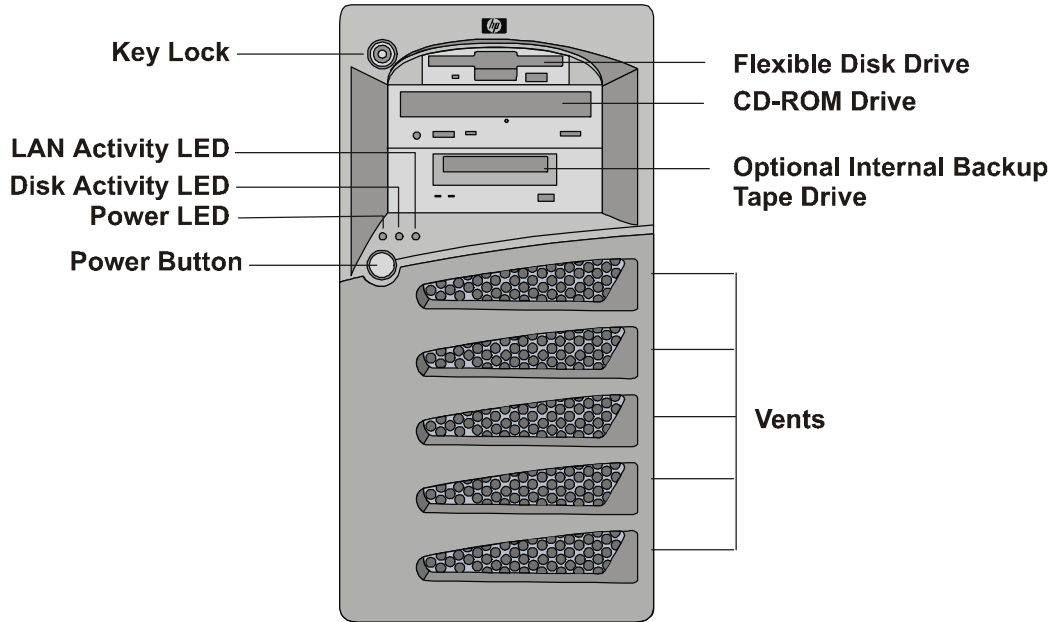

Figure 1-1. HP Server tc3100 with Cold Swap Hard Drives
The front panel of the HP Server tc3100 provides the controls and indicators commonly used when operating the server. See Figure 1-1 and Figure 1-2. Table 1-1 describes the LED indicators.
2. Press the power button on the front control panel. See Figure 1-1.